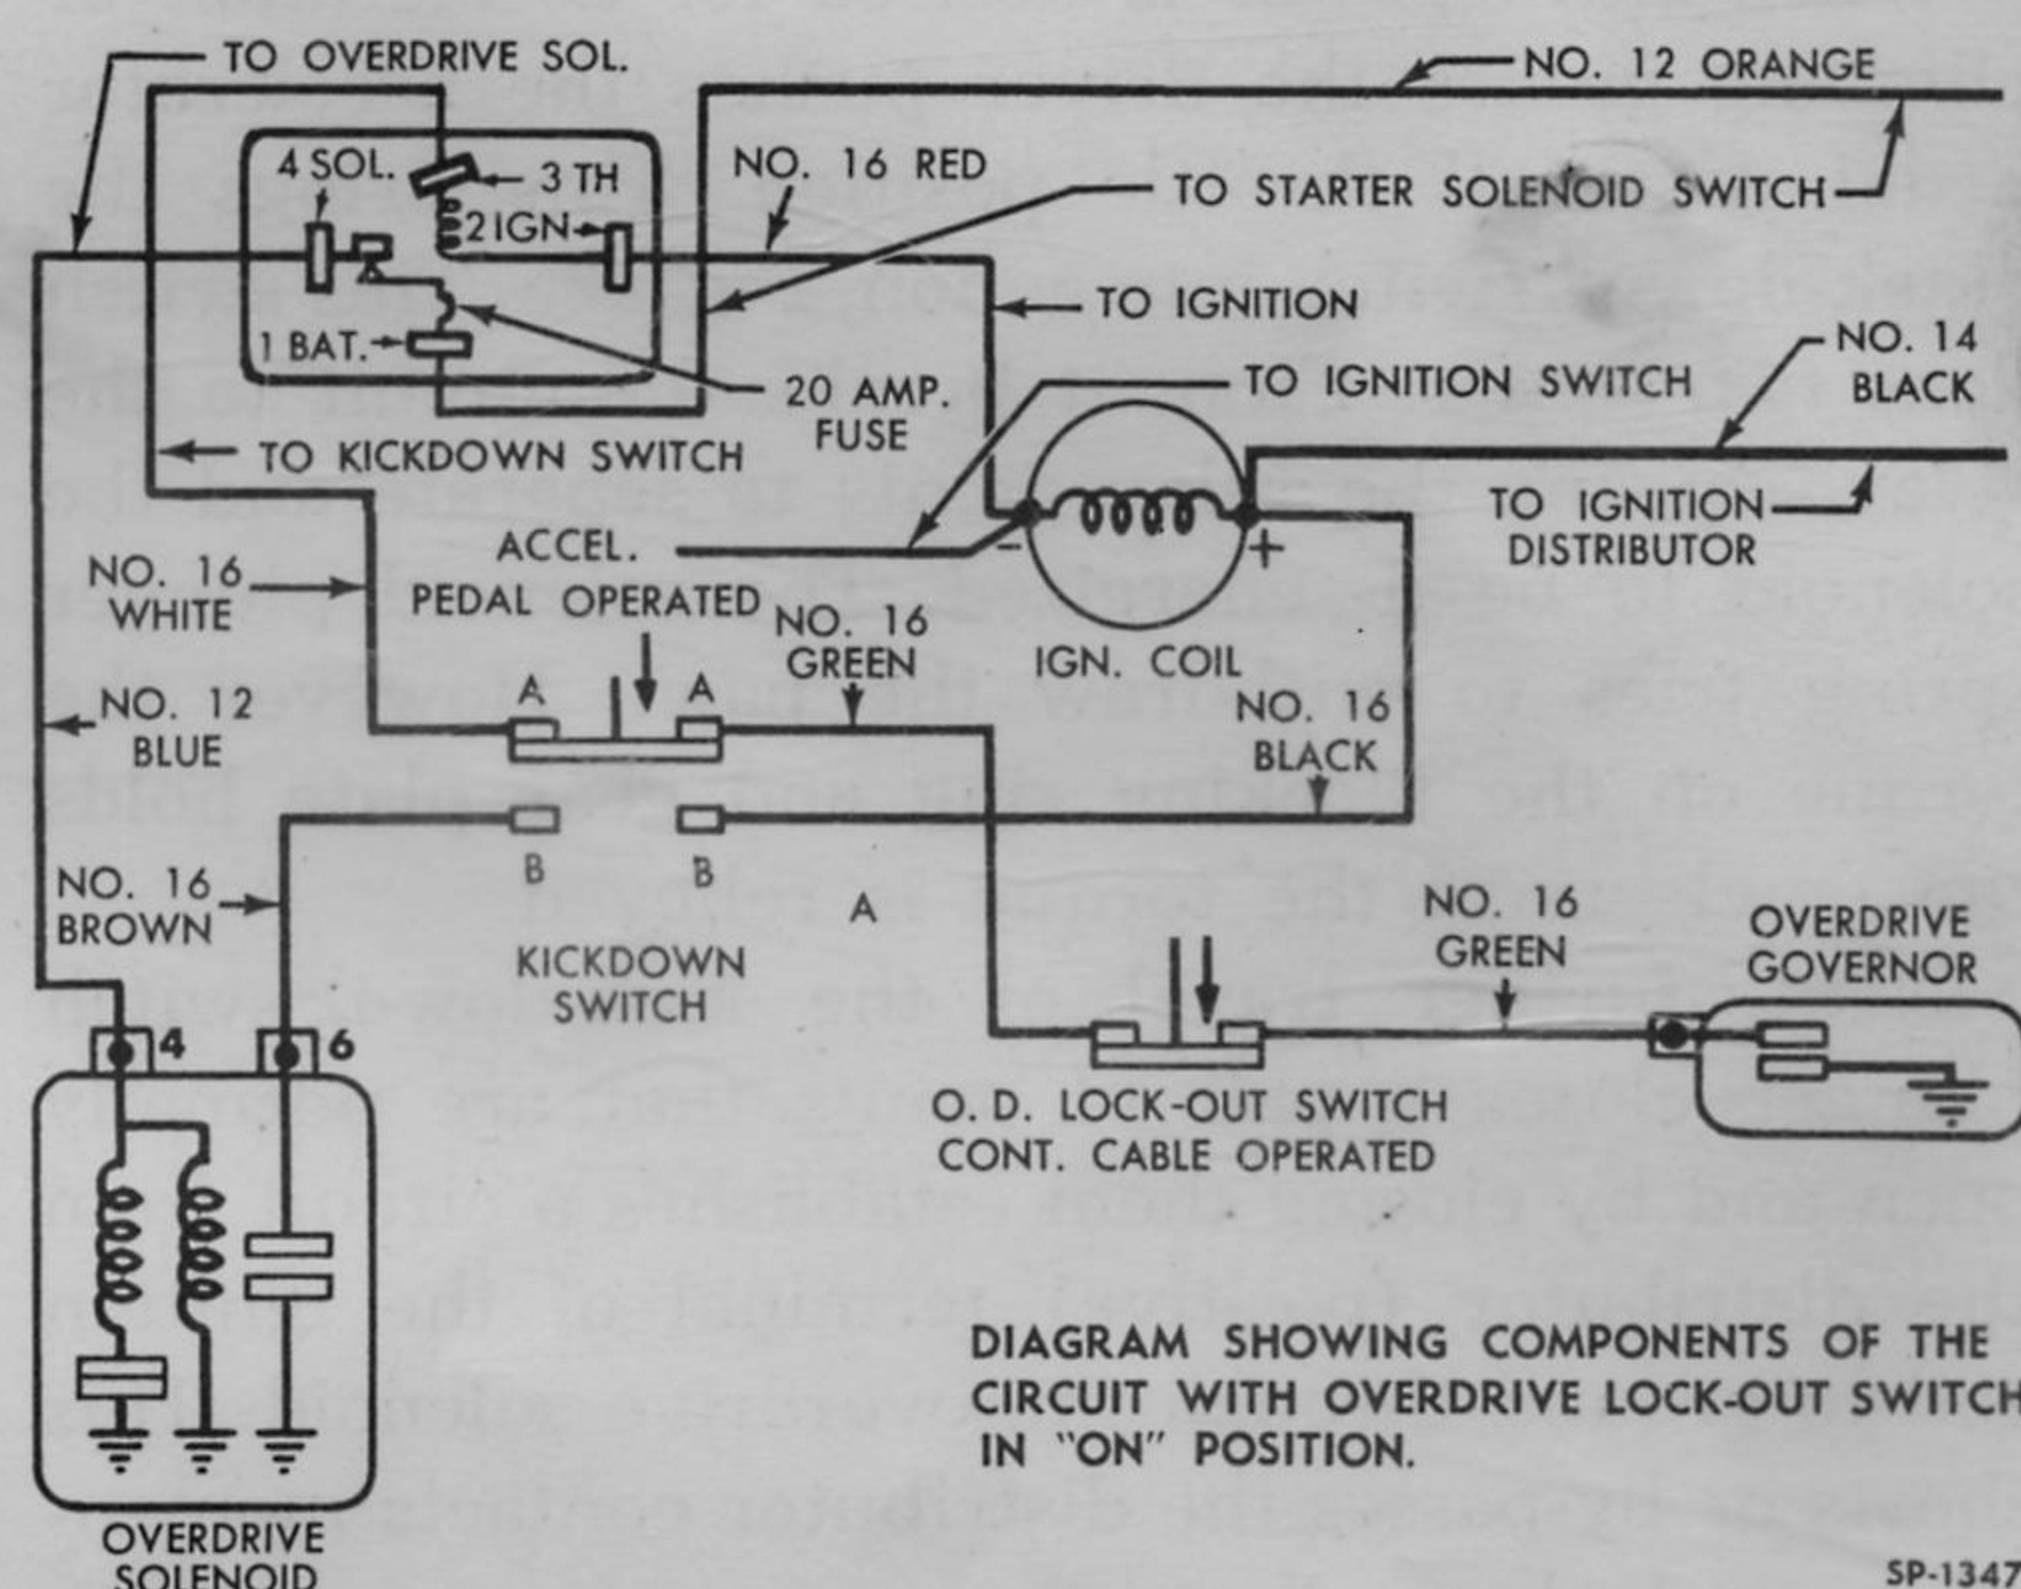

Fig. 435—Overdrive Electrical Control—Wiring Diagram
b. OPERATION OF OVERDRIVE ELECTRICAL CONTROLS. If the overdrive lock-out control knob is pushed in as far as possible, the resulting movement of the cable connected shift rail permits the spring loaded lock-out switch to close. See Fig. 435. If the car is in motion at not more than approximately 28 miles per hour, the switch in the speed-sensitive overdrive governor is open.
When extra power is desired for acceleration or climbing grades the driver pushes the accelerator pedal past full throttle position. This brings the "kick-down" switch into action, Fig. 435. This switch does two things. First, it breaks the circuit to the relay, causing the relay points to separate and the solenoid to be de-energized. The solenoid plunger spring tries to withdraw the pawl. However the torque on the blocking ring and gear plate holds the pawl—until the torque is relieved.